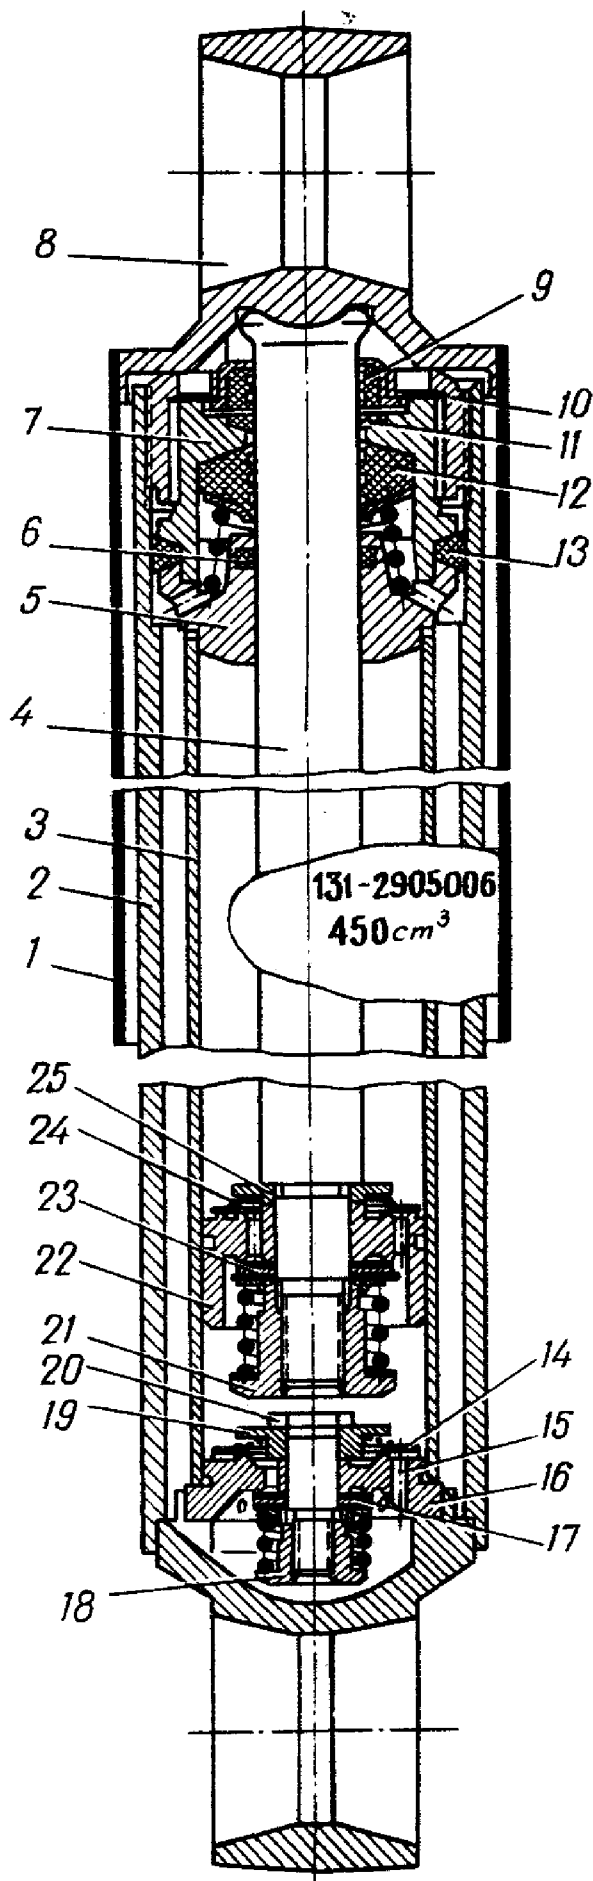

FIG. 53. FRONT SUSPENSION SHOCK ABSORBER
3. Withdraw rod 4 (Fig.53) with piston 22 to the extreme upper position and, using a special wrench, unscrew nut 10 of the shock-absorber reservoir.